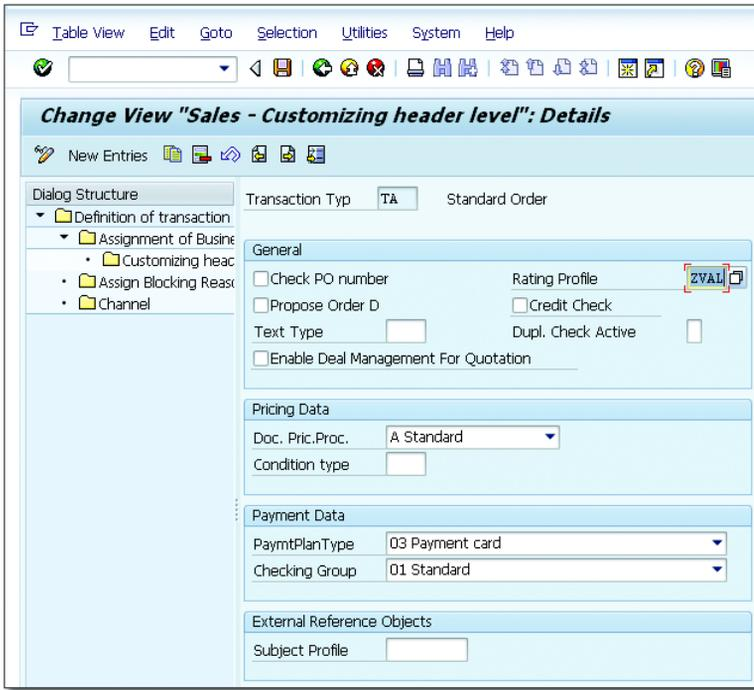

Figure 6.57 Rating Profile Assignment to the Transaction Type
- In this step, assign the ratings profile to the transaction type. In SAP CRM, go to CUSTOMER RELATIONSHIP MANAGEMENT • TRANSACTIONS • BASIC SETTINGS • DEFINE TRANSACTION TYPE. Within this step, you assign the rating profile to the transaction type, which activates the rating check functionality for the transaction (see Figure 6.57).